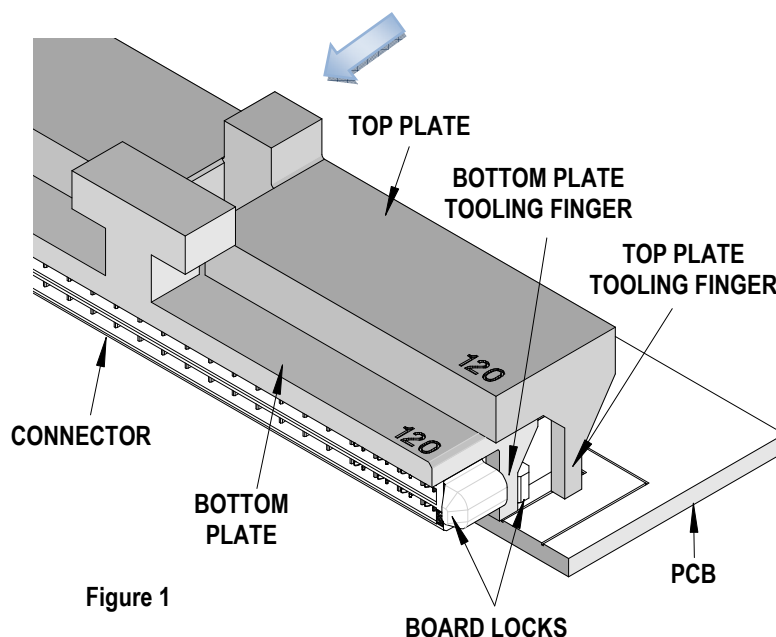

Figure 1
1. Place the bottom plate of this tool over the connector. Be sure the plates are in the correct position allowing the tooling fingers to be between the adjacent board locks. See Figure 1.